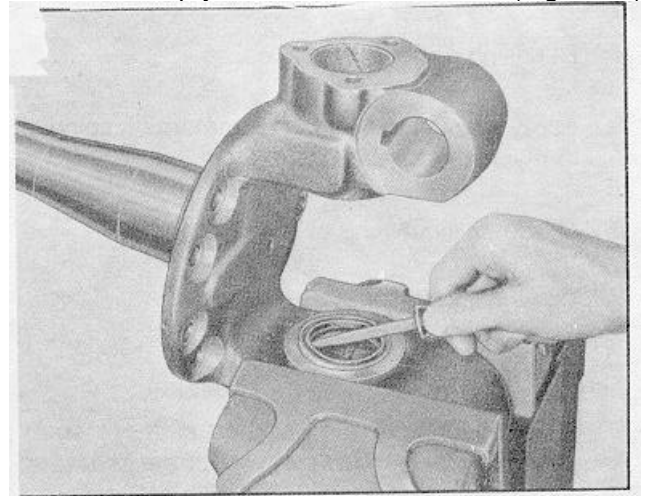

Figure 12
- G. Inspect the grease seals for tears, rips and deterioration. Do not remove the seals from the steering knuckle unless replacement is necessary or if the knuckle is to be rebushed. If a seal must be removed, pry it out with a screwdriver (Figure 12).